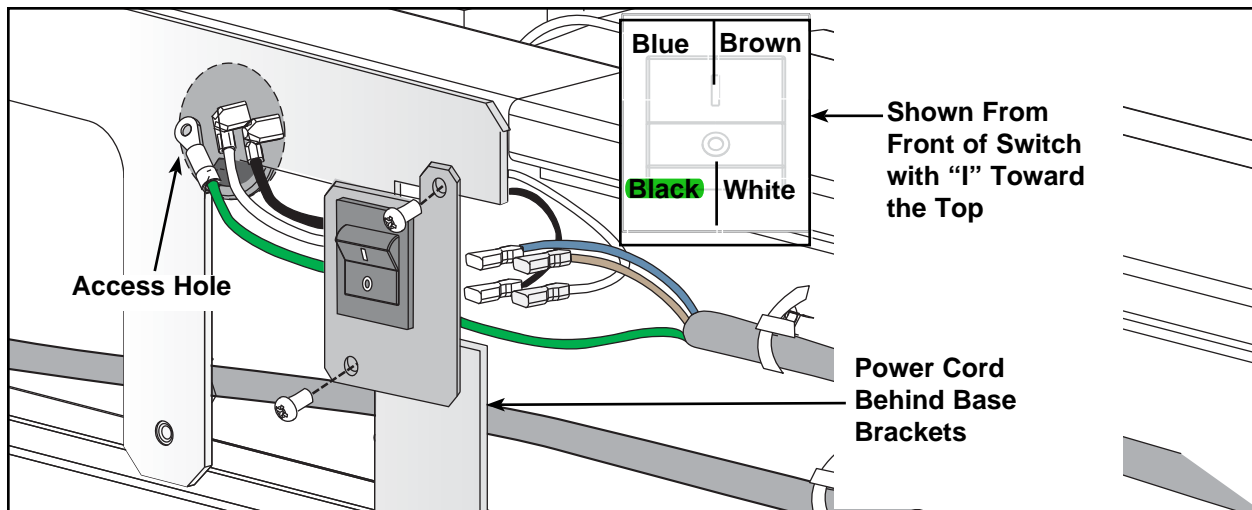

Figure 22
- A. Hold the power switch and its plate so that the I (on) is toward the top. See Figure 22.